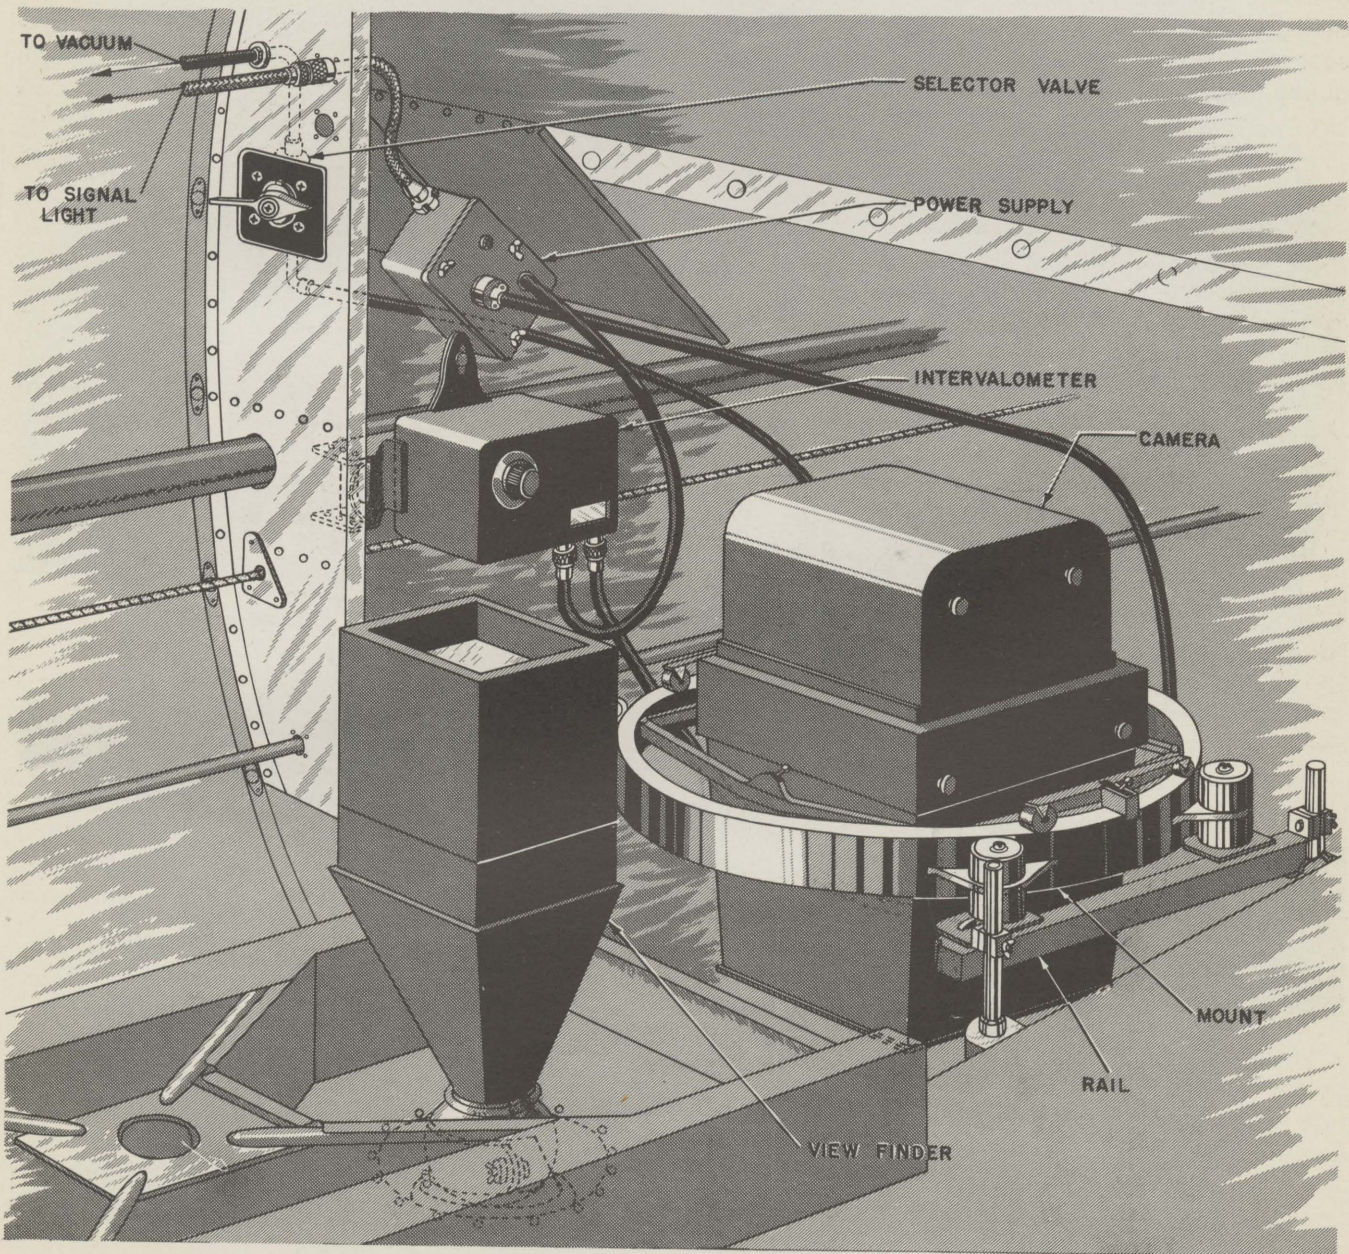

FIG. 20—CAMERA EQUIPMENT
4. PHOTOGRAPHIC EQUIPMENT (See figure 20.)